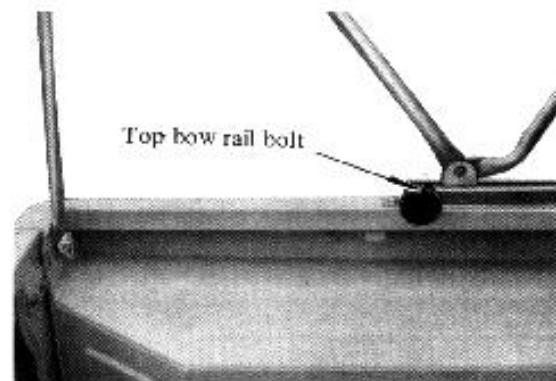

Fig. 15-18
6. Fit roof-side front rail into front cross top bow (Fig. 15-18) and tighten right and left top bow rail bolts.